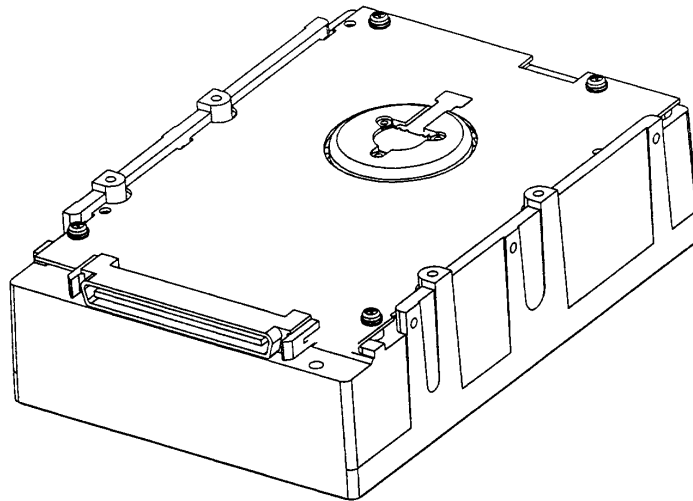

Figure 1.1 MAA31xxSC outer view
An outer view of the IDD is given in Figures 1.1 to 1.4. The IDD is composed of the disk, head, spindle motor, hermetically sealed disk enclosure (DE) with actuator and air circulation filter, as well as read/write pre-amp with the print card unit (PCA) of the controller.